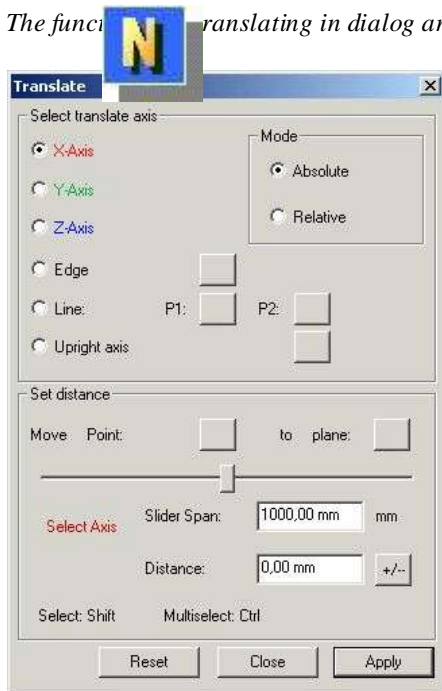

Figure 44: Dialog for Translating Graphic Objects
- After making the selection, click **Line** field under **Select translate axis** in the dialog (Please refer to the Figure 44). Now you can set the two points one after the other. The checkmark next to **P1** and **P2** indicates that the two points have been set successfully. The cursor will assume the shape of a circle and can be used to set a point.
- Use this button to change the signs for the value in the **Distance** dialog (*Please refer to the Figure 44*); the translating is performed in accordance with the selected sign. Always enter the value in this field by which a graphic object is to be translated.
- 1) Select a graphic object. You can open the **Translate** dialog either using the **Graphic** menu (*Please refer to the Figure 33*), the right mouse button contextual menu or the Icon in the toolbar. *Please refer to the Figure 44*.